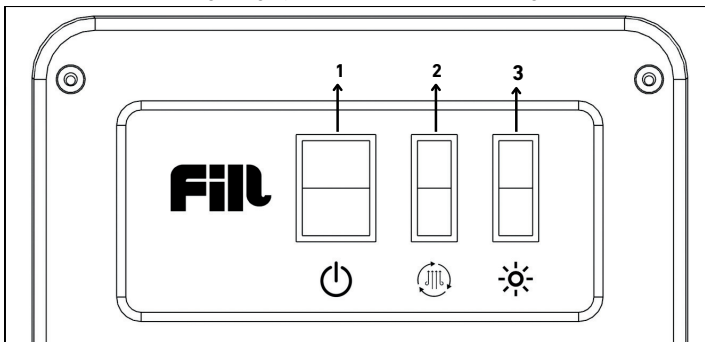

Figure 36
24.1. The functions of the control buttons you can use to operate the device are illustrated in Figure 36: